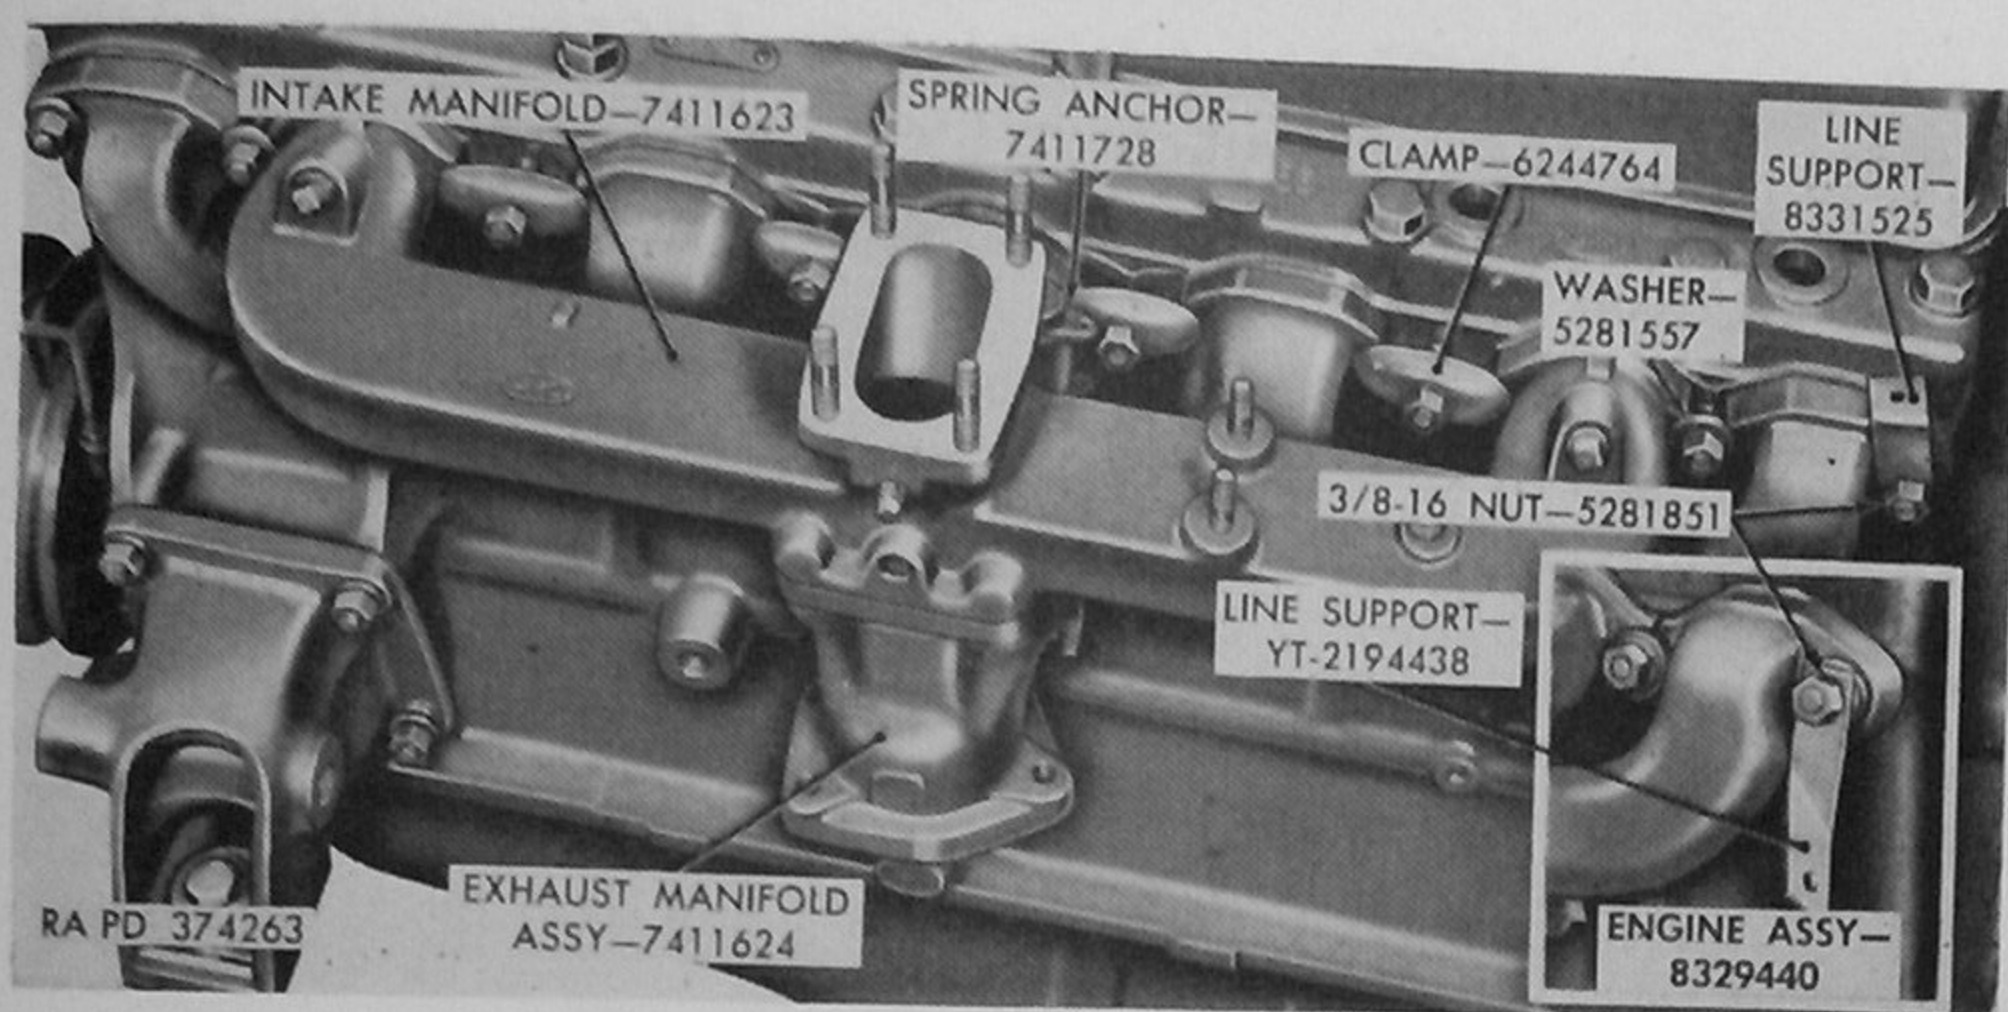

Figure 168. Intake and exhaust manifolds installed—engine assemblies 7411599 and 8329440.
- (2) Lift manifold assembly into place on studs and turn mounting clamps to hold manifold assembly in place.
- (3) Assemble four special flat washers on two studs at front and two studs at rear of manifold assembly (fig. 168 or 169).
- (4) On engine assembly 7411599, install line support on manifold rear stud as shown in main view in figure 168. On engine assembly 8329440, install line support on manifold rear stud as shown in inset in figure 168.
- (5) Install  $\frac{3}{8}$ -16 nuts on two front and two rear manifold mounting studs and tighten nuts to 25 to 30 pound-feet torque. Tighten four nuts at mounting clamps to 15 to 20 pound-feet torque.